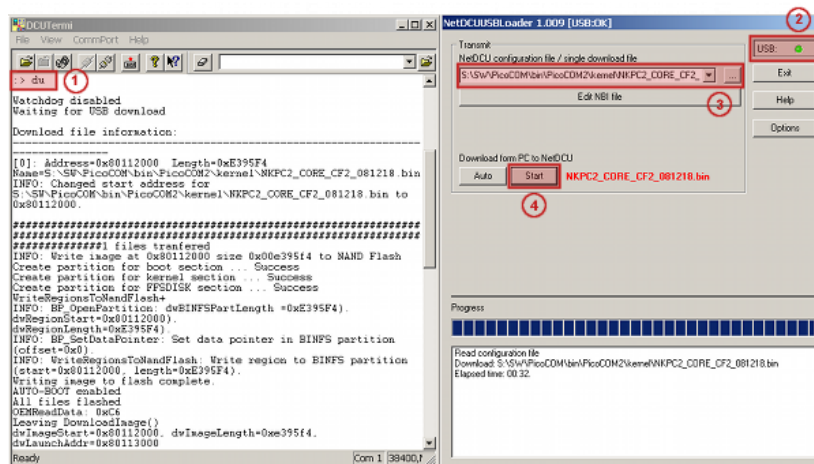

Figure 27: Using the NetDCU-USBLoader utility (1)
To download the WindowsCE Kernel by USB use the command DU (1) and start the NetDCU-USBLoader utility on your desktop PC. As soon as the connection is established, the button in the top right corner of NetDCU-USBLoader turns from red to green (2). Select the respective **<NK-kernel-image>.bin** file (3) and click on 'Start' button (4). You should now see progress similar to *Figure 27*.